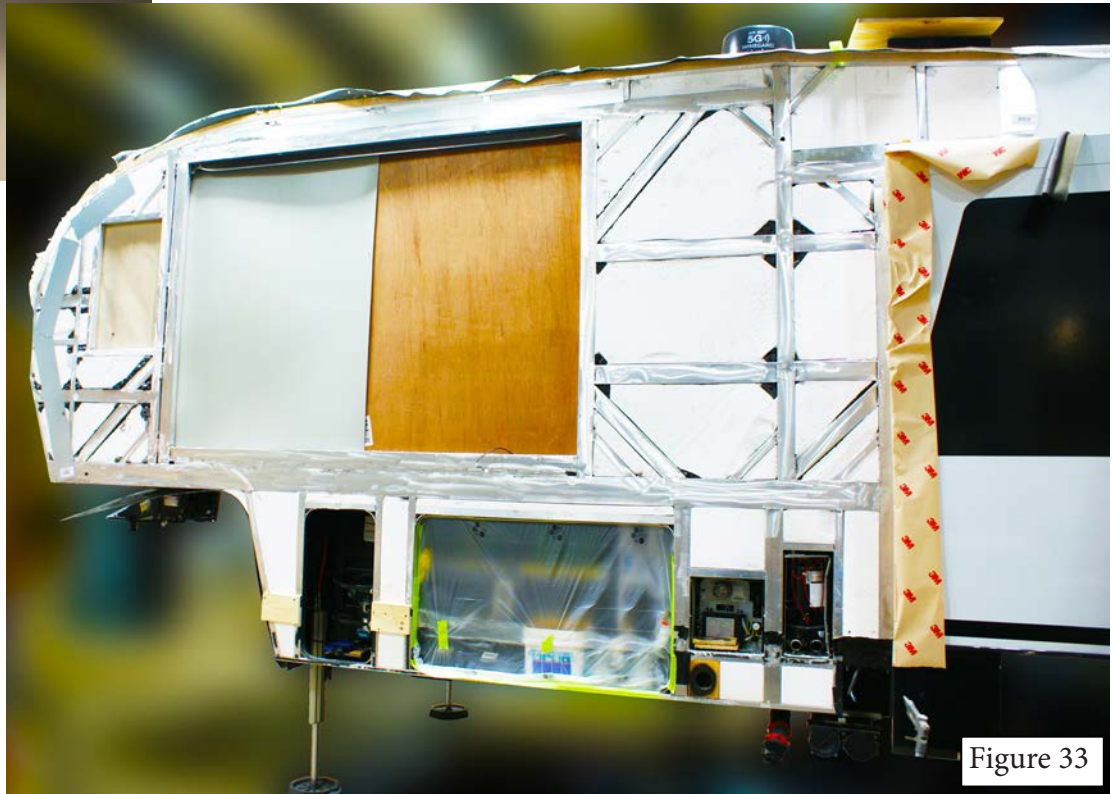

Figure 33
1. Mark the sidewall structure for additional bracing. Starting at the edge of the kitchen slide-out, measure as indicated on the attached prints and mark the foam insulation for installation of braces. Vertical braces (when added) are typically installed on 48" centers. **NOTE:** On the prints **RED** means **ADD** this reinforcement, **YELLOW** means **ADD IF NOT ALREADY THERE** (Figure 33 - this photo is an example of the structural modifications - actual prints are attached to the end of this document).